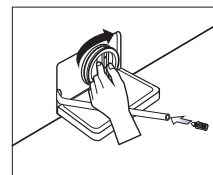

Fig. 15
- Insert the coin-trap cover and screw tight. (Fig.15)